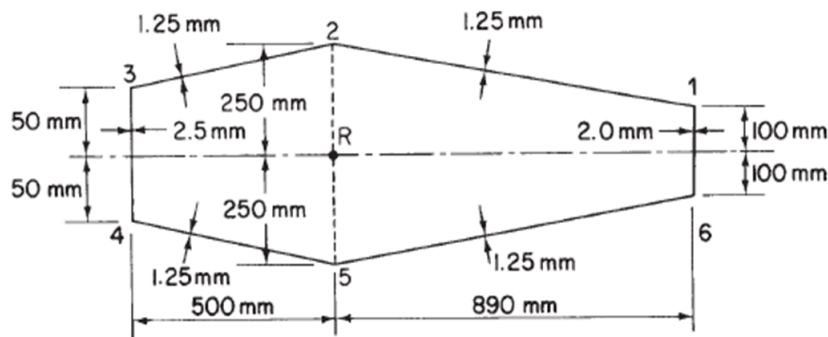

Figure 4
- (b) A single cell, thin-walled beam with the double trapezoidal cross-section shown in Figure 4 is subjected to a constant torque $T = 90\,500\text{ Nm}$ and is constrained to twist about an axis through the point R . Assuming that the shear stresses are distributed according to the Bredt–Batho theory of torsion, calculate the distribution of warping around the cross-section. Illustrate your answer clearly by means of a sketch and insert the principal values of the warping displacements. The shear modulus $G = 27\,500\text{ N/mm}^2$ and is constant throughout. [BL: Apply| CO: 4|Marks: 7]